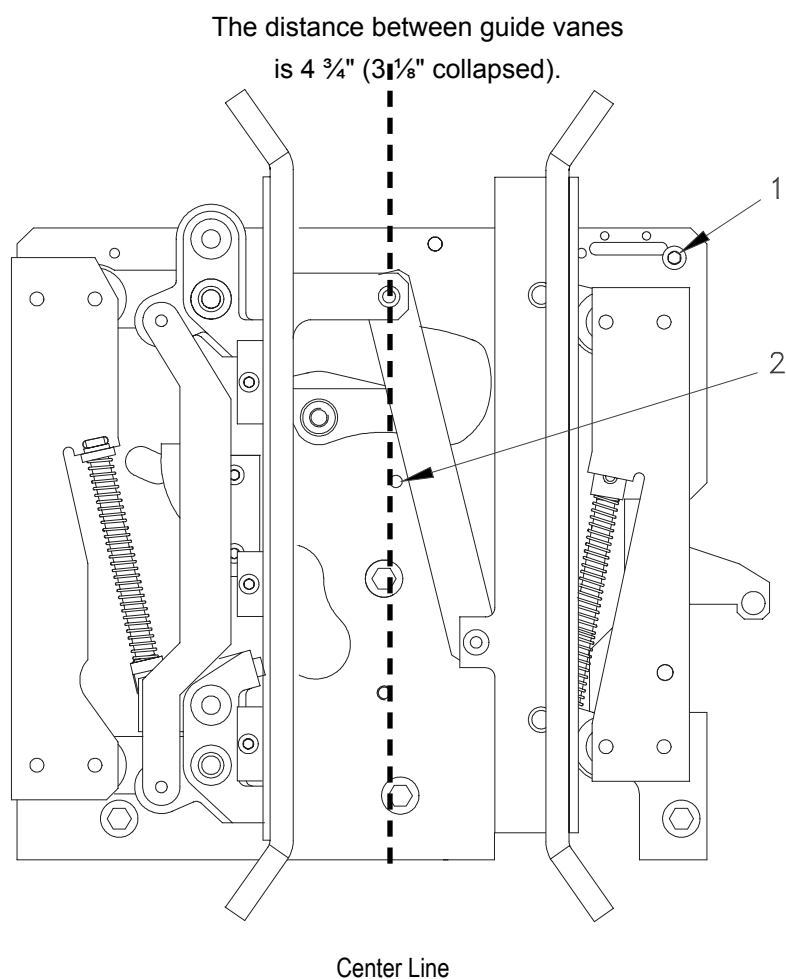

Figure 45 Lock Clutch Open
1. Lock the clutch open to check clearances and alignments as follows (see Figure 45):
- a) Remove the screw (1) from the parking position in the upper right corner of the clutch.
- c) Install the screw in the lock position hole (2) as shown in Figure 45 to hold the clutch open. **Be sure to remove this screw at the end of the procedure once all clearances are verified.**